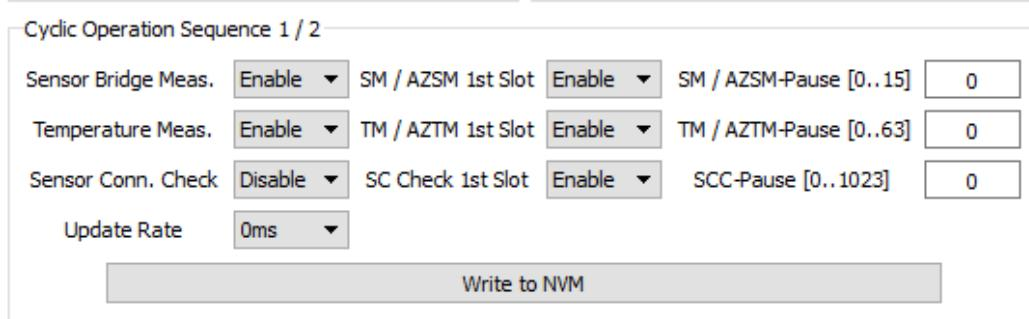

Figure 9. Scheduler for Cyclic Operation
1. Set the Cyclic Operation Sequence according to Figure 9 and save the configuration clicking the "Write to NVM" button.